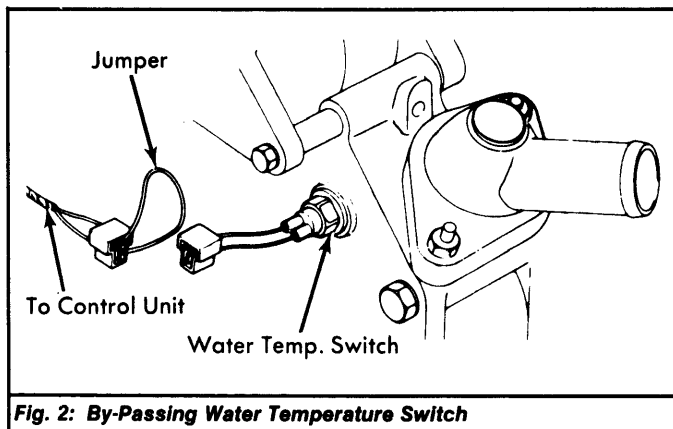

Fig. 2: By-Passing Water Temperature Switch
4) On automatic transmission equipped pickup, disconnect water temperature switch and connect a jumper wire to both connector terminals. See Fig. 2. Start engine and set engine speed at 2000 RPM with choke knob.
1976-77 California Models - 1) Connect tachometer and timing light to trailing spark plug wire (topmost spark plug). Disconnect water temperature switch and connect a jumper wire to both connector terminals. See Fig. 2.
- 1975 Models** - 1) Connect tachometer and timing light to leading spark plug wire. Disconnect water temperature switch and connect a jumper wire to both connector terminals. See Fig. 2. Start engine and set engine speed at 2000 RPM with choke knob.
- 1976-77 California Models** - 1) Connect tachometer and timing light to leading spark plug wire. Disconnect water temperature switch and connect a jumper wire to both connector terminals. See Fig. 2. Start engine and set engine speed at 2000 RPM with choke knob.
- 2) Stop engine. Disconnect water temperature switch and connect a jumper wire to both connector terminals. See Fig. 2. Start engine and set engine speed at 2000 RPM with choke knob.
1976-78 Models (Except RX7 Man. Trans.) - 1) Disconnect vacuum tube from trailing vacuum control unit of distributor. Disconnect water temperature switch and connect a jumper wire to both connector terminals. See Fig. 2.